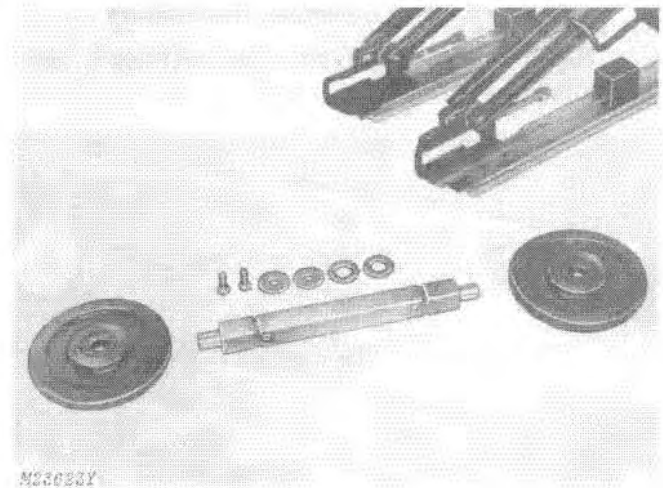

Fig. 6-Rear Axle Shaft and Wheels
2. Remove cap screws, idler wheels and washers from each end of rear axle shaft, Fig. 6.